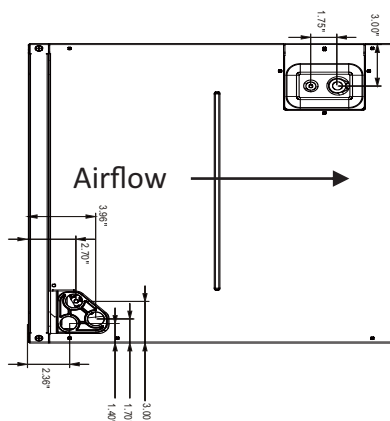

Figure 5.3A - Horizontal Right-Flow Airflow Drainage & Coil Dimensions
- Pipe dimensions and drain port clearances for Horizontal Right Airflow are shown in Figure 5.3A.